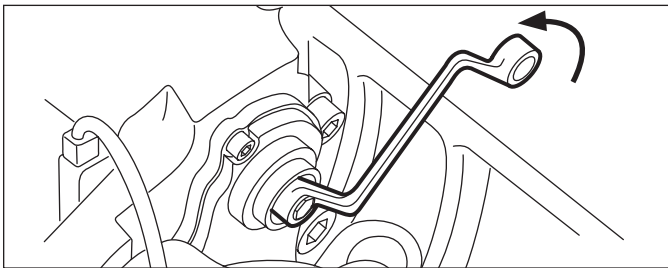

FIGURE 37 - BACKING OFF THE ADJUSTER FOR PAD REMOVAL
5.2.8 Use a 10 mm. six-point box wrench (See Figure 37) to turn the adjuster counterclockwise until sufficient space exists to remove the brake pads. A clicking noise occurs each time the adjuster turns.
- 5.2.19 Using the same tool, turn the Shear Adapter (61) **counter-clockwise** and listen for the sound of 3 clicks as the mechanism backs-off (increases) the running clearance. (See Figure 37).